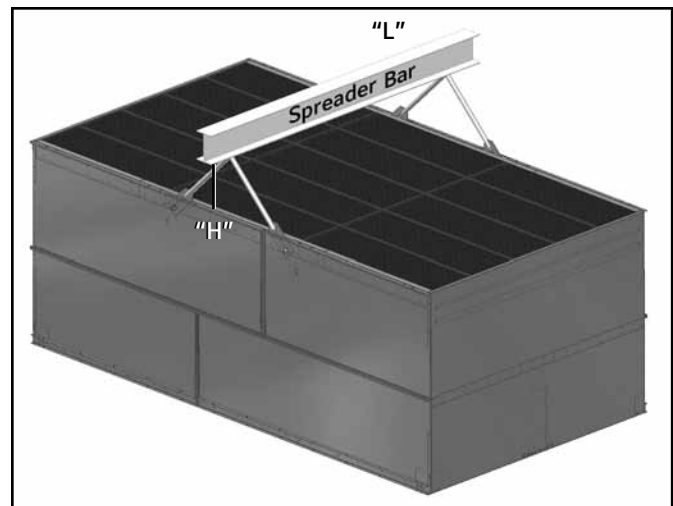

Figure 6
5. After applying sealer tape to the basin flanges, remove the casing skid. Lift the casing (see Figure 6) and position it so that the casing flanges are about 2" above the basin section. Do not permit the casing to damage the sealer.